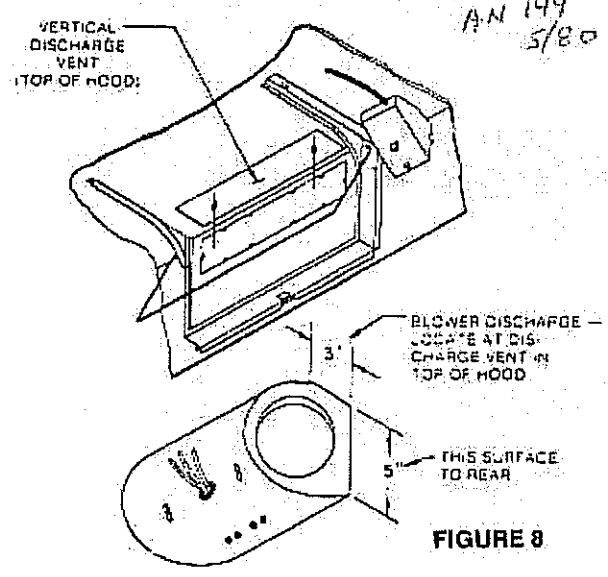

FIGURE 8
1. From the blower position shown in Figure 8, lift the blower assembly vertically into mounting position.